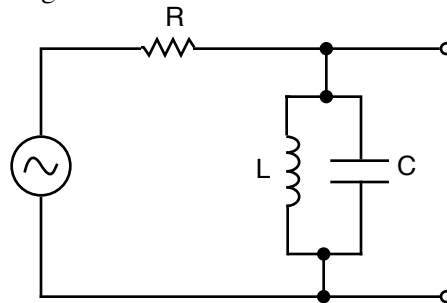

Fig. 1.1
a) Construct the parallel resonant circuit of Fig. 1.1. The parallel LC circuit is often called a “tank.” Choose R to be several times larger than the impedance of the LC circuit at the resonant frequency. Choose L and C so put the resonant frequency between 10 kHz and 100 kHz.
Drive the circuit of Fig. 1.1 with a square wave and carefully observe the frequency response of the output voltage. You will get peaks in the output sine wave response at the circuit's resonant frequency and at certain lower frequencies that have harmonics at the resonant frequency. This is a sort of backward Fourier analysis. The first few terms of the Fourier expansion of a square wave should be roughly related to the peak frequencies and amplitudes. Try using the sweep generator to display a series of peaks at once.